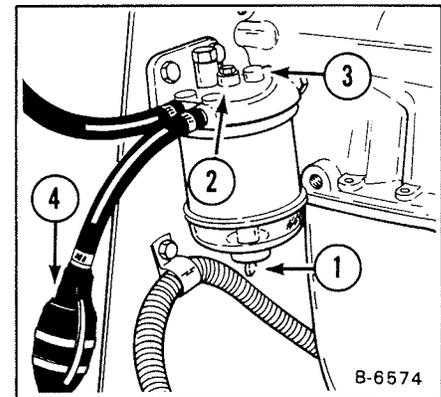

Fig. 1-14 Fuel Filter
The fuel filter is installed at the front left of the engine. Replace the filter element (Fig. 1-14) every 200 hours of machine operation.
Check the water trap every 50 hours of machine operation. If there is water in the water trap at the bottom of the filter, loosen the thumb screw (Fig. 1-14, Item 1). When fuel flows from the drain with no water, tighten the thumb screw.
- (1) Open the rear door of the machine.
- (2) Open the vent plug on the top of the fuel filter (Fig. 1-14, Item 3).
- (3) Operate the hand pump (Fig. 14, Item 4) until the fuel flows from the vent plug on the top of the fuel filter (Fig. 1-14, Item 3).
- (4) Close the vent plug on the top of the fuel filter.
- (5) Again operate the hand pump until the hand pump feels solid.